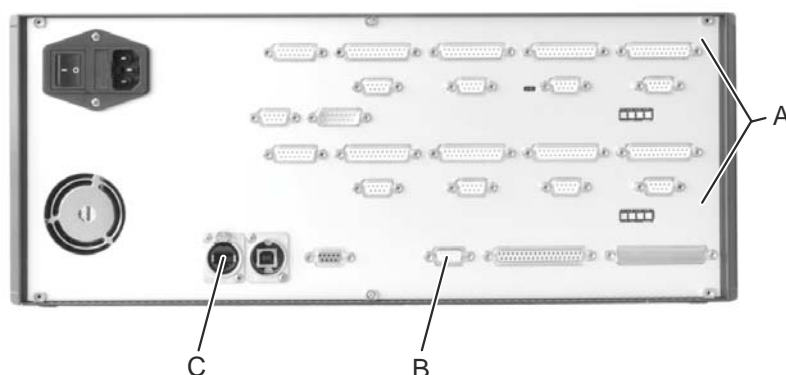

Figure 12: Backplane stage controller unit
The stage controller unit (see Figure 12) serves for controlling three linear stages (2x substrate stages, 1x projection lens mount). For control, powering and limit switch monitoring various connection lines are used (A). For details please refer to the manufacturers documentation. Additionally an Interlock input (B) is provided to prevent inadvertent stage movement. Remote control is enabled via an Ethernet connection to the control PC (C).
Key to Figure 12